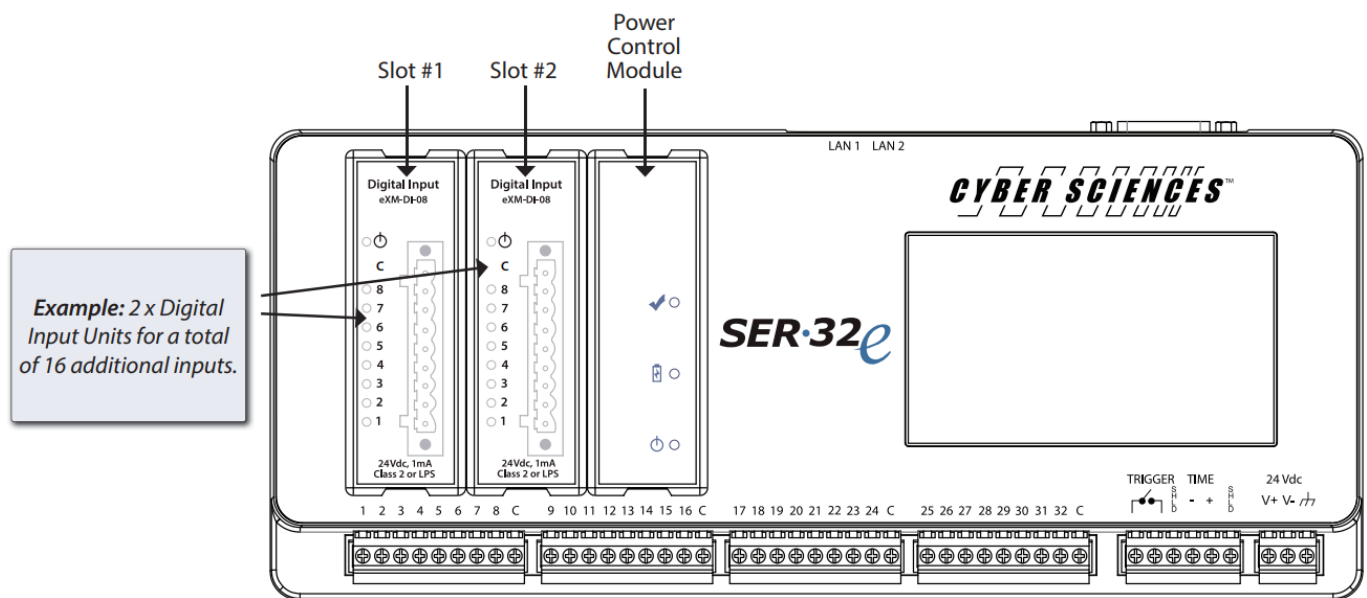

Figure 1-3. SER-32e with 2 x Digital Inputs Added
The Digital Input Module is installed by inserting it into either of the two (2) option slots on the SER-32e (slot 1 or slot 2). (see figure 1-3)